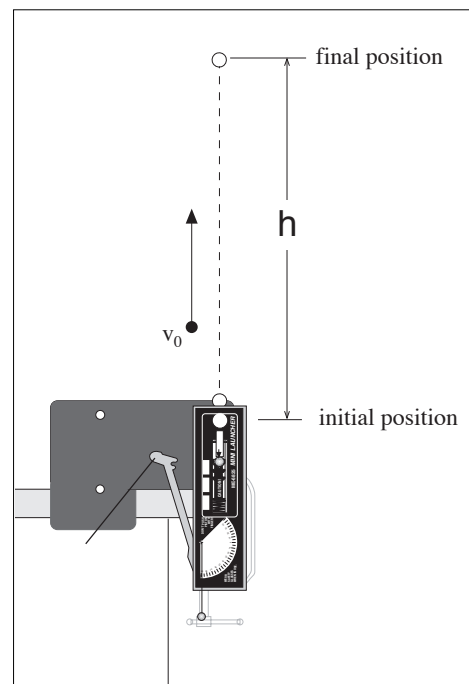

Figure 5.1: Conservation of Energy
The total mechanical energy of a ball is the sum of its potential energy (PE) and its kinetic energy (KE). In the absence of friction, total energy is conserved. When a ball is shot straight up, the initial PE is defined to be zero and the $KE = (1/2)mv_0^2$, where m is the mass of the ball and v_0 is the muzzle speed of the ball. See Figure 5.1. When the ball reaches its maximum height, h , the final KE is zero and the $PE = mgh$, where g is the acceleration due to gravity. Conservation of energy gives that the initial KE is equal to the final PE.
- ① Clamp the Mini Launcher near one end of a sturdy table with the Launcher aimed away from the table. See Figure 5.1.
- ② Point the Launcher straight up and fire a test shot on long range. Make sure the ball does not hit the ceiling. If it does, use the medium range throughout this experiment or put the Launcher closer to the floor.
- ③ Adjust the angle of the Mini Launcher to zero degrees so the ball will be launched horizontally.